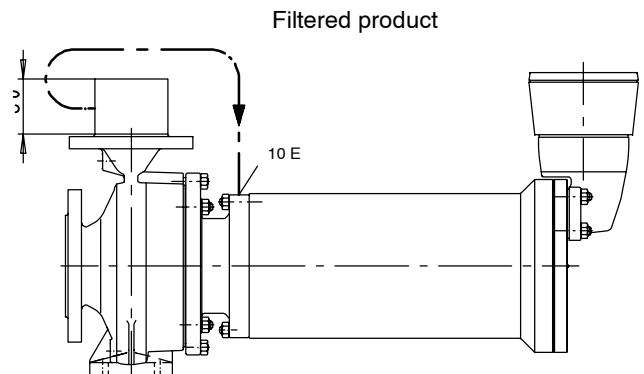

Fig. 2 Sealing with filtered product
- **Main flow filter** (see fig. 2)
For solids-laden products, connection 10 E can be fed with pumped product passed through a self-cleaning main flow filter (fig. 2) or with an external sealing liquid (fig. 3), thus preventing contaminations from entering the rotor chamber. If a KSB filter is used, pump dimension h2 will increase by 60 mm. Any external sealing liquid used must be compatible with the pumped product. **It is advisable to use PTC thermistors i.e. monitoring the temperature in the stator windings, in both cases, in order to prevent motor failures caused by insufficient cooling flow.**